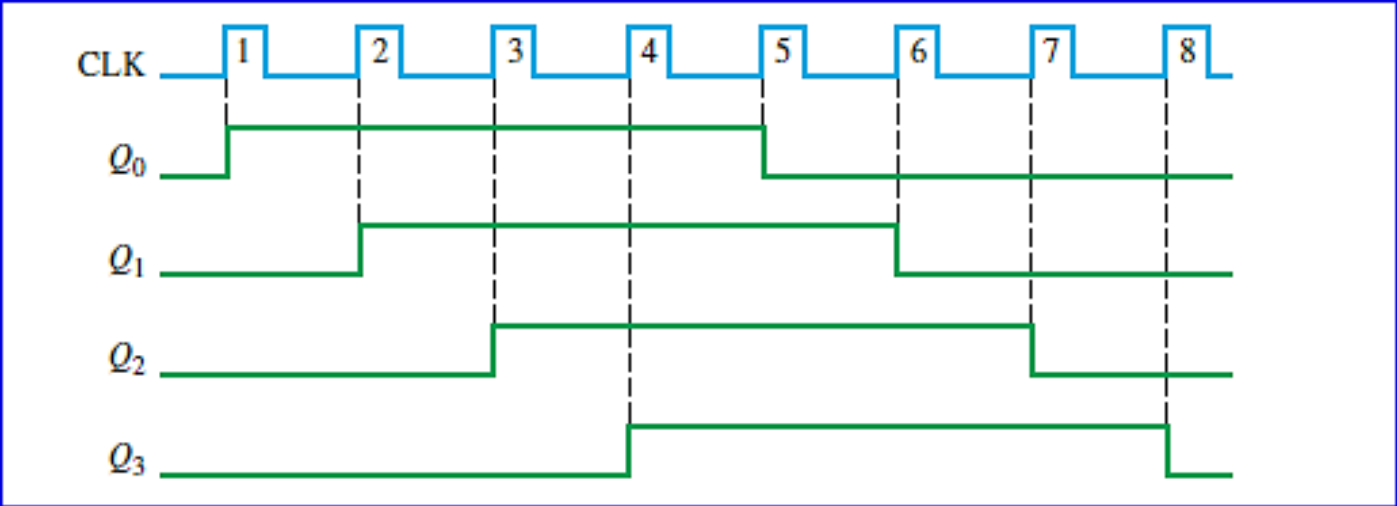

FIGURE 22 Timing sequence for a 4-bit Johnson counter.
- Diagrams of the timing operations of the 4-bit and 5-bit counters are shown in Figures 22 and 23, respectively.